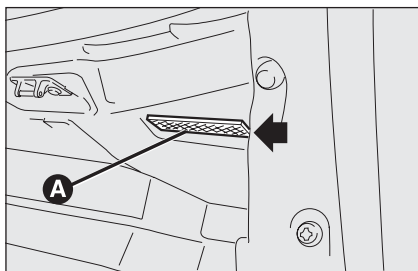
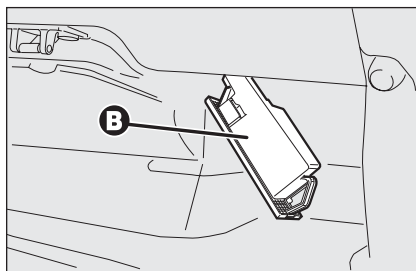

fig. 40
fig. 41
- remove the light unit **A-fig. 40** levering in the point shown by the arrow;
- raise protection **B-fig. 41** and replace the snap-fitted bulb;
- close protection **B-fig. 41** on light unit **A-fig. 40**;